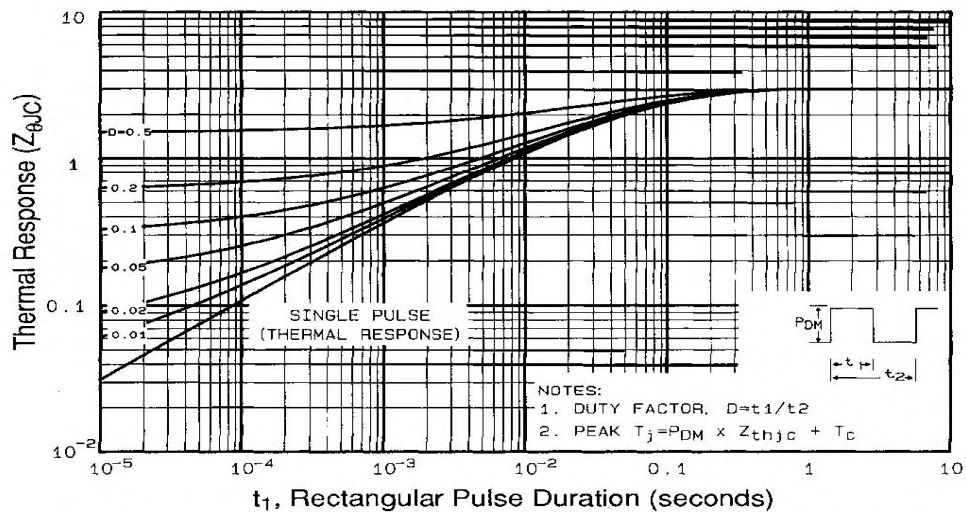

Fig 11. Maximum Effective Transient Thermal Impedance, Junction-to-Case
- ① Repetitive rating; pulse width limited by max. junction temperature (See Figure 11)
- ② V_{DD}=-25V, starting T_J=25°C, L=10mH